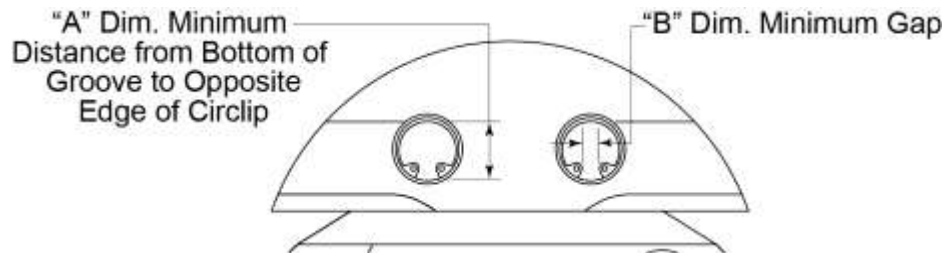

Figure 54
(8) Use the specified Lycoming gage set identified in the latest revision of Service Instruction No. SI-1535. Make sure the circlips are installed correctly on the counterweight (Figure 53). Figure 54 shows the location of the A and B dimensions. Dimension A is the diameter of the gage. Dimension B is the width of the gage.